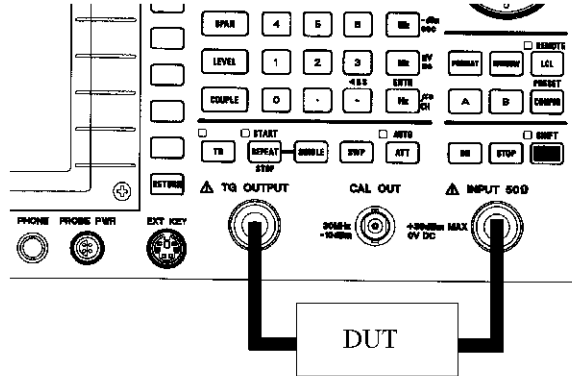

Figure 2-5 Connecting DUT
9. Connect the measurement cables as shown in Figure 2-5